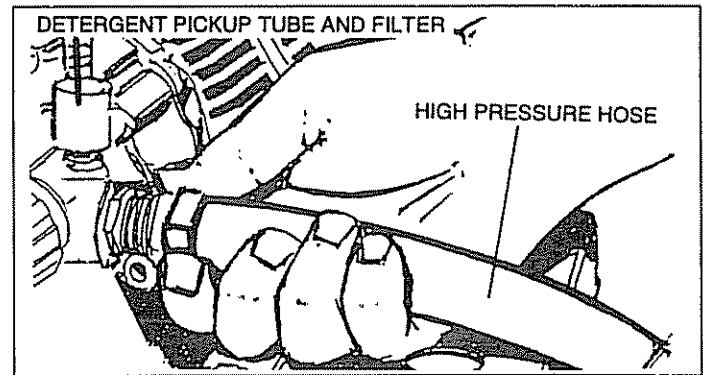

FIG. 8
- Attach the other end of the high pressure hose to high pressure fitting on pump (Fig. 8). Tighten with adjustable wrench.
- Attach Detergent Pickup Tube as shown in Fig. 8.